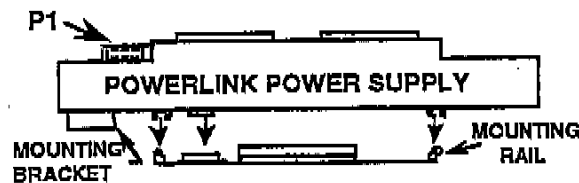

Fig. 2.2
- 2.3.2 Plug in wiring harness from transformer compartment into connector P1 on the power supply module (see fig. 2.2).
Align the module in the top position J1. Push the power supply module inward until the module snaps onto both mounting rails. See fig. 2.2.
- 2.4.2 Align the module in the position where plastic cover was removed. Push the Breaker Interface Module inward until the module snaps onto the mounting rails. See fig. 2.2 & 2.3. DO NOT USE EXCESSIVE FORCE WHEN INSTALLING THE MODULE.